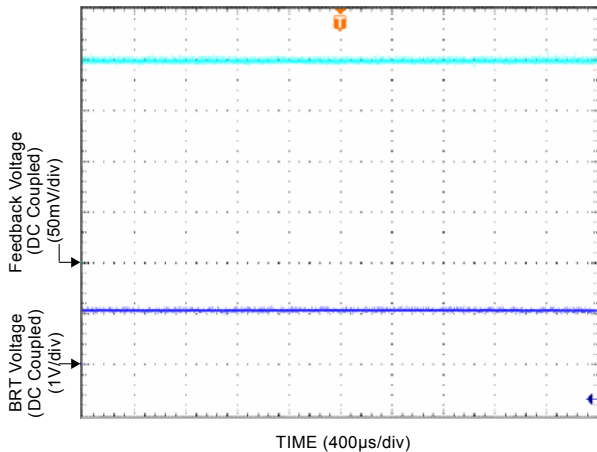
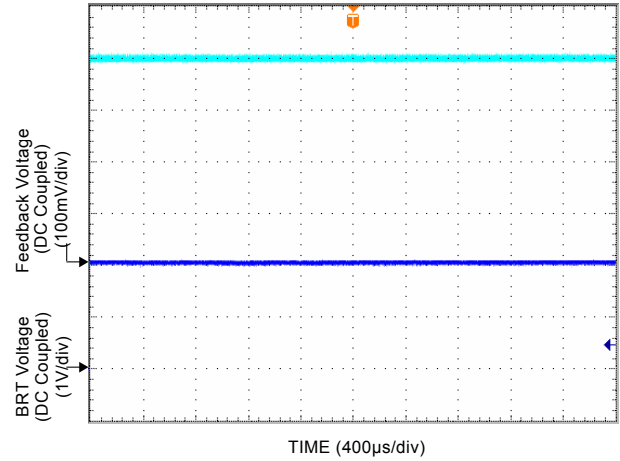

Figure 1. BRT = 1V, $V_{FB} = 200mV$, $I_{LED} = 20mA$
Figure 2. BRT = 2V, $V_{FB} = 400mV$, $I_{LED} = 40mA$
The feedback voltage can be changed using the BRT pin. Changing the feedback voltage changes the WLED current, which will change the WLED brightness. Refer to the Figure 1 and Figure 2 for reference.
In Figure 7, when the duty cycle is equal to 100%, D equals 1. When we set D equal to 1 in equation (3), notice (3) becomes the same as equation (2), if we assume V_{PEAK} equals BRT. Using a 100% duty cycle is the same as applying a constant DC voltage to the BRT pin. In this instance, Figure 7 is exactly the same as Figure 1.